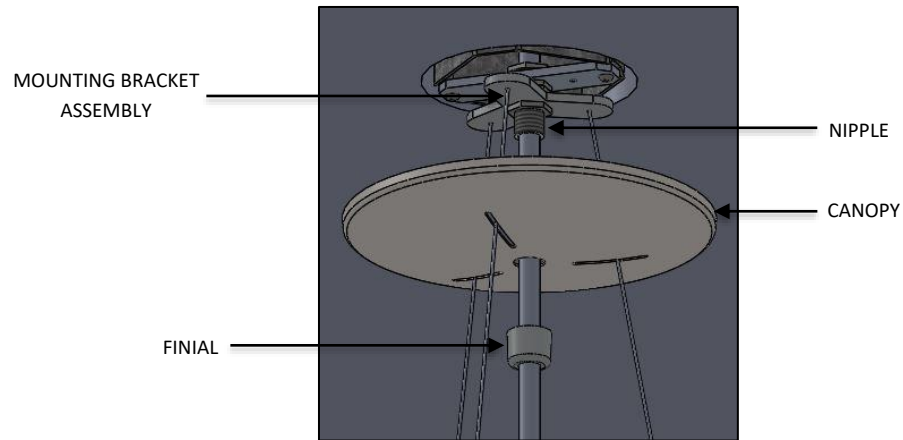

FIG. 16 – FINIAL INSTALLATION
10. Raise CANOPY and secure to ceiling by threading the FINIAL to the NIPPLE (available in MOUNTING BRACKET ASSEMBLY) as shown below in FIG. 16.